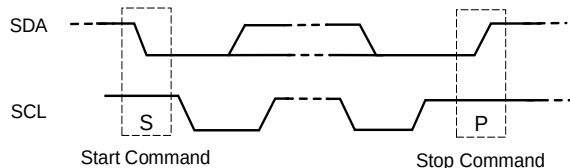

Figure 11: Start and Stop Commands
The start (S) and stop (P) commands are signaled by the initiator device, which signifies the beginning and the end of the I²C transfer. The start command is defined as the SDA signal transitioning from high to low while SCL is high. The stop command is defined as the SDA signal transitioning from low to high while SCL is high (see Figure 11).